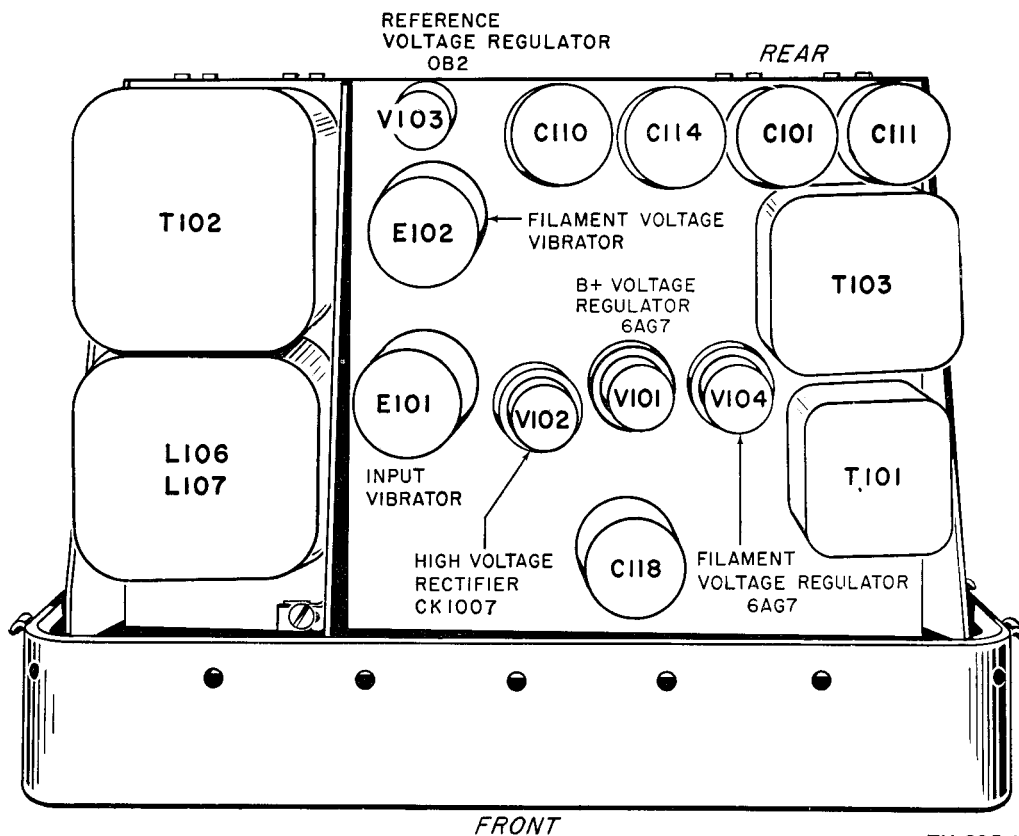

Figure 5. Power Supply PP-308/URR, tube location.
a. General. The receiver and power supply may be used as a fixed-field installation, as a vehicular installation, or as a portable field installation. The radio set is shipped with tubes, vibrators, fuses, pilot lamp, and crystal already installed. Remove the power supply and receiver from Electrical Equipment Cabinet CY-615/URR by opening the eight latches at the sides of the cabinet, sliding the two units forward, and disconnecting the plug and receptacle at the rear of the receiver and power supply, respectively. Loosen the covers by removing the screws and loosening the captive screws, and check to see that all tubes and vibrators are firmly seated in their proper sockets (figs. 5 and 6). See that the receiver-power supply connecting cable (fig. 9) is connected properly to the cabinet. When the check is complete, reconnect the units and replace them in the cabinet.